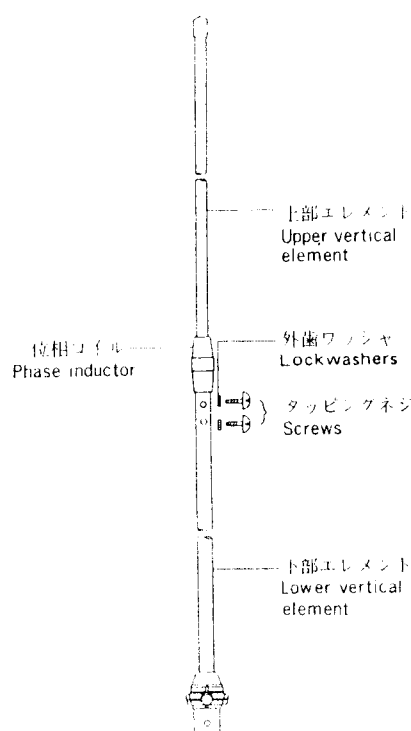

Fig. 1
1. Attach upper vertical element to lower vertical element with screws as shown in Fig. 1.